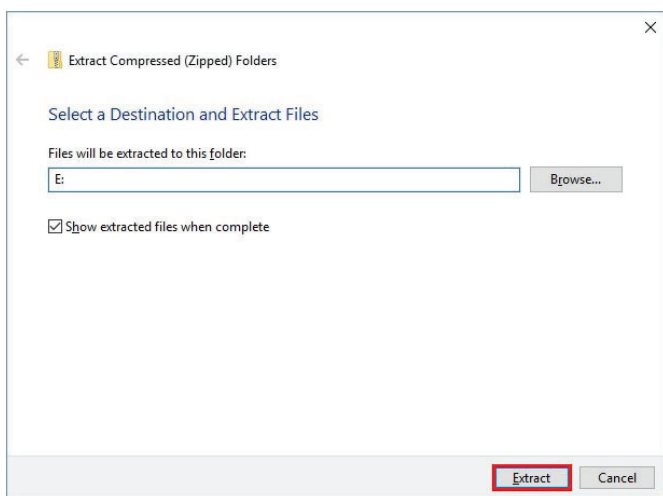

Figure 2-10: Extract the Zipped File
9. Click **Extract** (Figure 2-10).